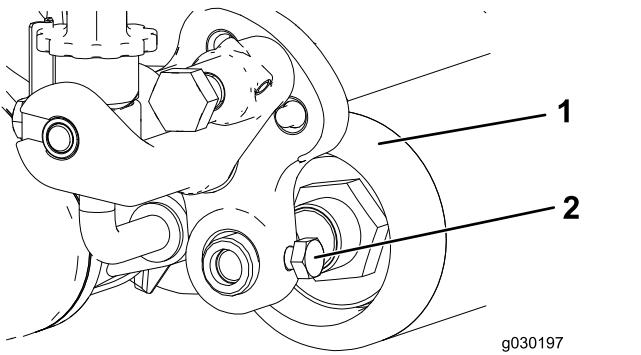

Figure 27
2. Loosen the bolt securing the roller shaft to the height-of-cut arm (Figure 27).